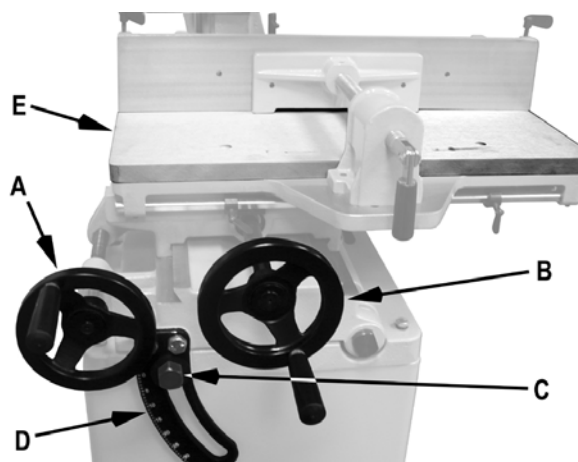

Figure 10
The 719T Mortiser is equipped with two handwheels for table (E, Fig. 10) positioning. In addition, the table can be tilted up to 35° for angle mortising.
- Turn the *handwheel* (A, Fig. 10) to move the table the *forward* or *backward*.
- Turn the *handwheel* (B, Fig. 10) to move the table to the *right* or *left*.
- Loosen bolt (C, Fig. 10) with the 23mm wrench provided.
- Pivot the table to adjust the angle up to 35° using the scale (D) on the tilt bracket as a guide.
- Tighten the *bolt* (C).